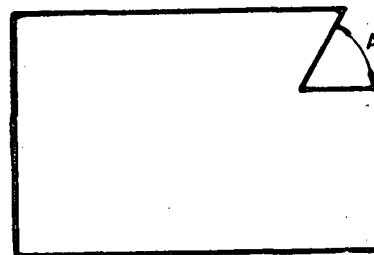

Fig. 6
2. For acute angles (Fig. 6) the angle is equal to $90^\circ - A$.